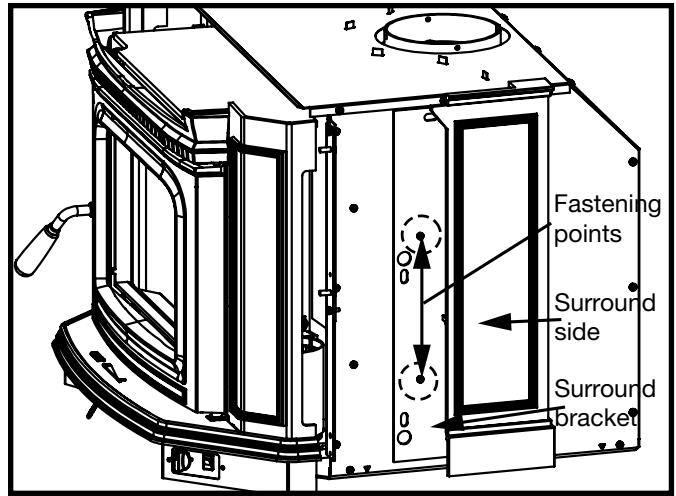
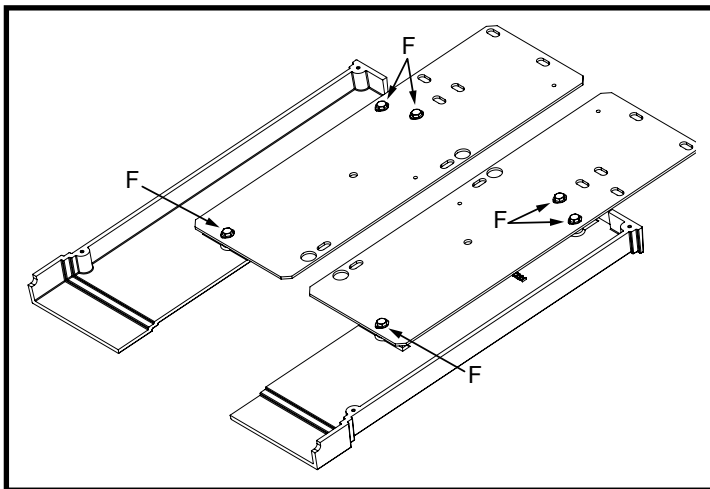

Figure 12: Removing the surround bracket.
Figure 13: Installing brackets on Surround Sides.
4. Remove the surround brackets w/surround sides from the stove (Figure 12). Remove the bolts holding the surround sides to the brackets then use the bolts and washers in the mounting hardware kit, found with the Surround Top to reattach the brackets to the Surround sides as shown in Figure 13.